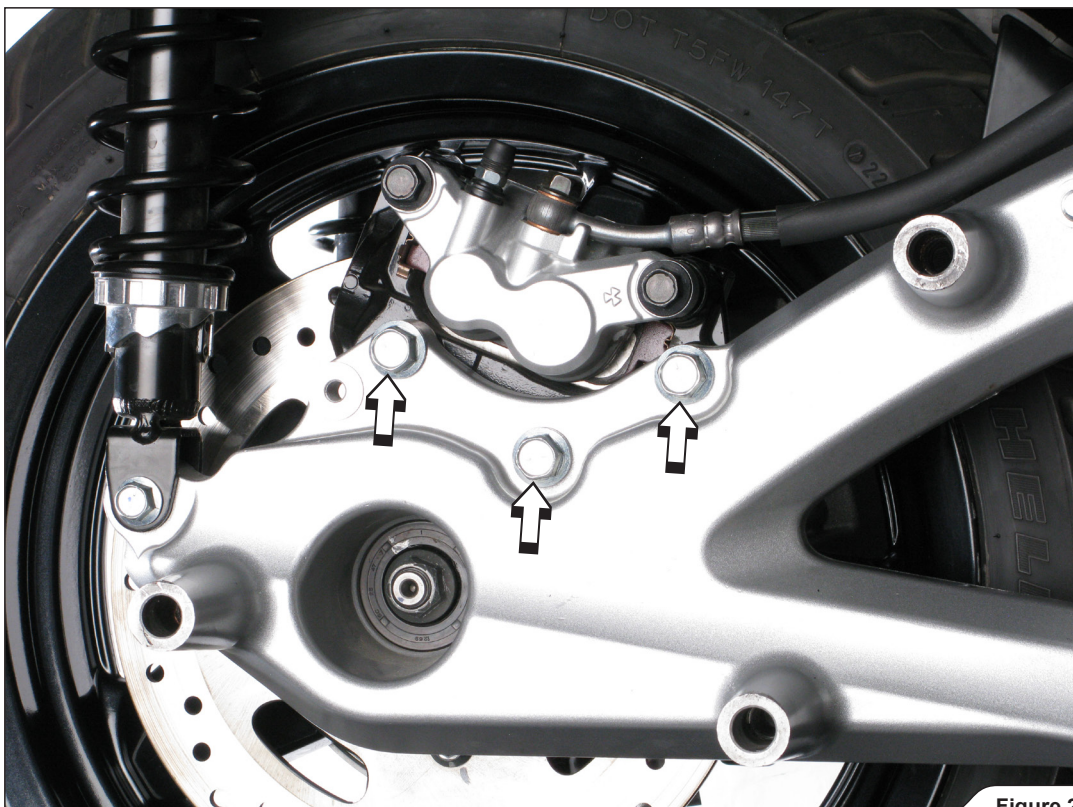

Figure 2
3. For X-MAX 250 / 250 ABS / 125 ABS / X-CITY 250 only: unscrew the marked rear brake caliper bolts (Figure 2).